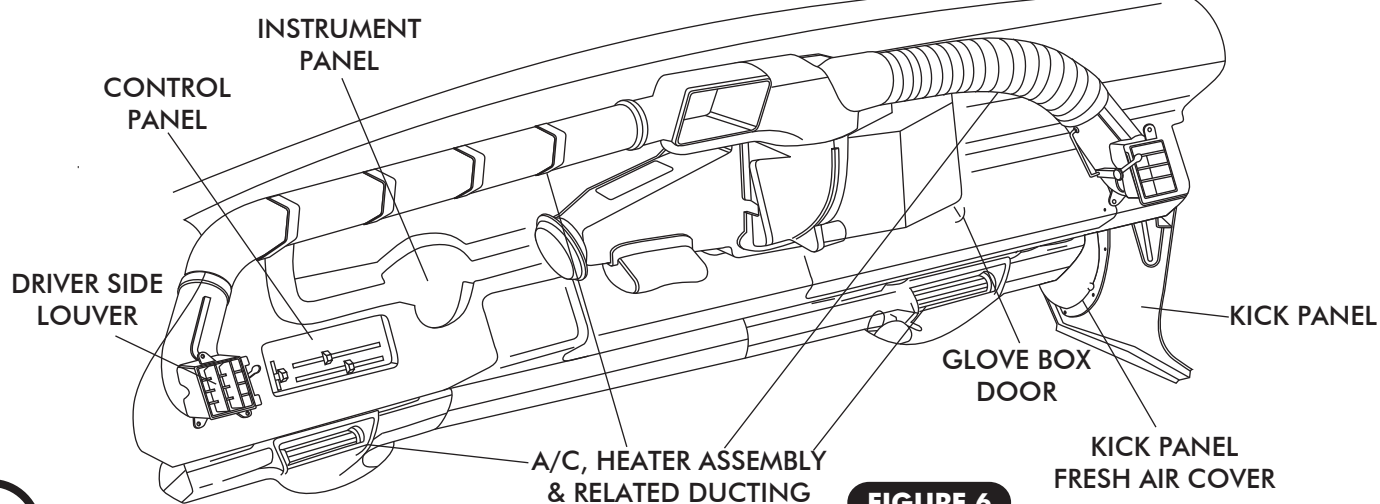

FIGURE 6
- ☐ GLOVE BOX DOOR (SEE FIGURE 6, BELOW).
- ☐ A/C, HEATER, EVAPORATOR ASSEMBLY AND ALL RELATED DUCTING (DISCARD, RETAIN SCREWS), (SEE FIGURE 6, BELOW).
- ☐ A/C, HEAT OUTLETS (RETAIN). INSTRUMENT PANEL MUST BE REMOVED TO GET TO LEFT OUTLET AND CONTROL PANEL (SEE FIGURE 6, BELOW).
- ☐ CONTROL PANEL ASSEMBLY (DISCARD), (SEE FIGURE 6, BELOW).
- ☐ REMOVE PASSENGER SIDE KICK PANEL FRESH AIR COVER (DISCARD) AND KICK PANEL (RETAIN). REMOVE CABLE FROM PANEL (DISCARD), (SEE FIGURE 6, BELOW).